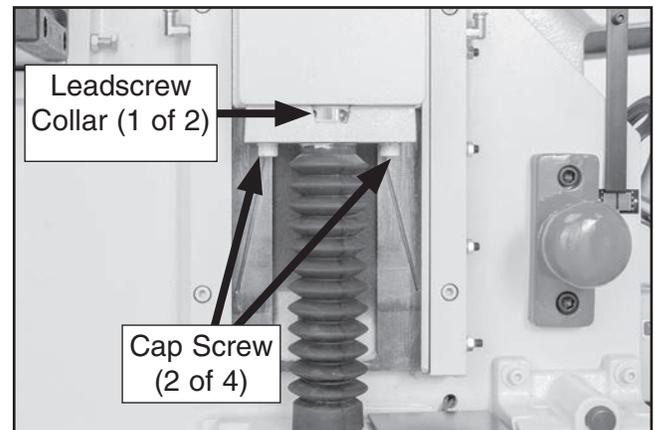

Figure 107. Location of elevation leadscrew collar and cap screws.
4. On end of machine where headstock is higher, loosen (4) cap screws securing left-side and right-side elevation leadscrew collars (see **Figure 107**).
5. Turn leftside and rightside elevation leadscrew collars (see **Figure 107**) counterclockwise until front and rear upper cutterhead depth-of-cut scales indicate headstock height is even front to back. Make sure to adjust both elevation leadscrews equally.
4. On side of machine where headstock is higher, loosen (2) cap screws securing elevation leadscrew collar (see **Figure 107** on **Page 68**).
5. Turn elevation leadscrew collar (see **Figure 107** on **Page 68**) counterclockwise until inserts on leftside and rightside edge of upper cutterhead are at BDC, and then tighten (2) cap screws securing elevation leadscrew collar.
7. On side of machine where headstock is higher, loosen (2) cap screws securing elevation leadscrew collar (see **Figure 107** on **Page 68**).
8. Turn elevation leadscrew collar (see **Figure 107** on **Page 68**) counterclockwise until leftside and rightside of headstock are even, and then tighten (2) cap screws securing elevation leadscrew collar.